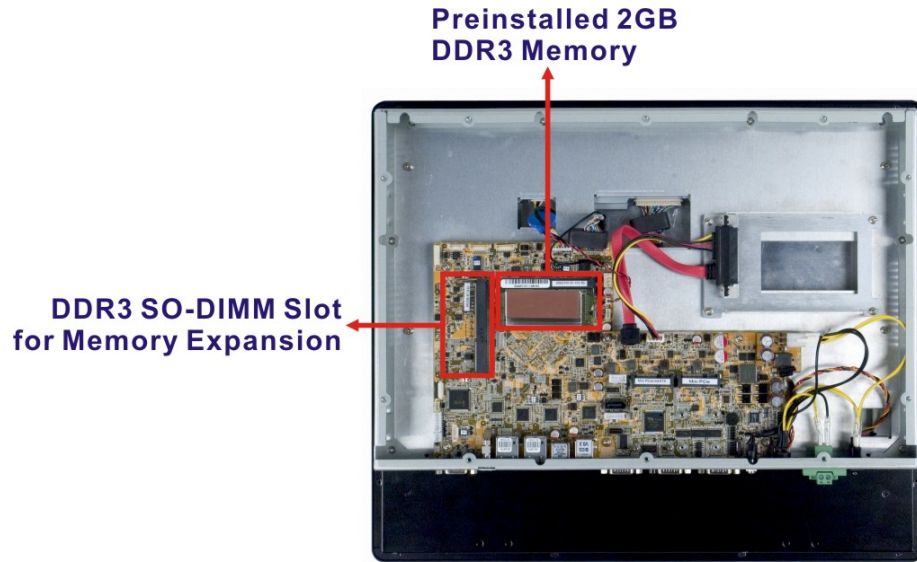

Figure 3-2: SO-DIMM Slot Location
Step 2: Locate the SO-DIMM socket. See Figure 3-2.